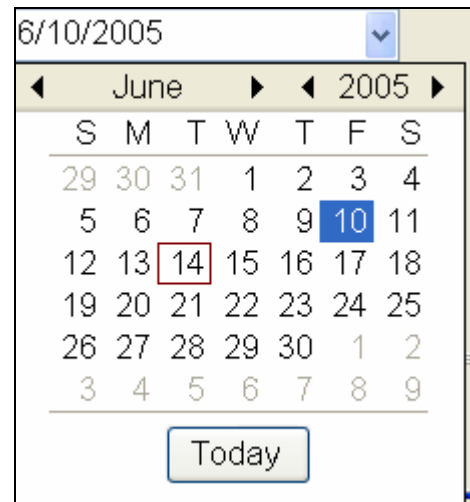

Figure 17.1.11
- You can enter the date by using the drop down arrow and changing the date by using the calendar feature. Use the **BLACK** arrows to change the month or year and then click on a day of the month to select. You can also use the **Today** button to select today's date (Figure 17.1.11).